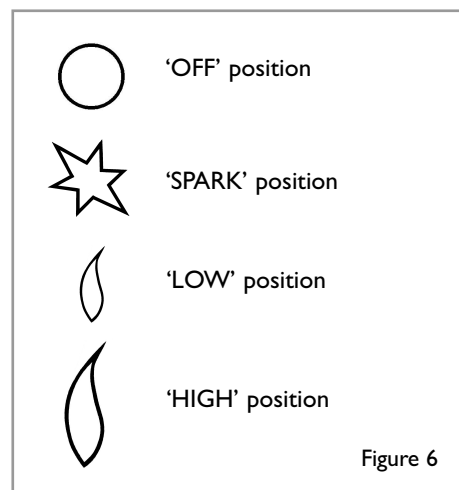

Figure 6
- The control knob is located on the lower right hand side of the outer case. It is marked as shown in figure 6.